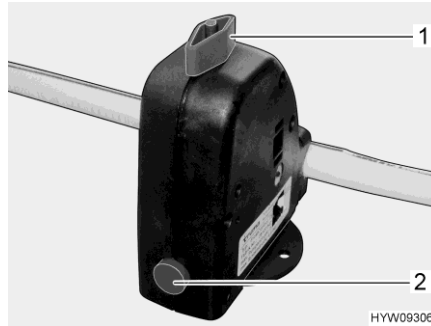

Fig. 171 Safety/drainage valve (boiler)
The boiler is equipped with a safety/drainage valve (Fig. 171). The safety/drainage valve prevents water in the boiler from freezing, when there is frost and the heater is not switched on.
- Close the safety/drainage valve. Turn the knob (Fig. 171,1) perpendicular to the safety/drainage valve and push the push button (Fig. 171,2) in.
- Open the safety/drainage valve. To do this turn the knob (Fig. 171,1) parallel to the safety/drainage valve. The push button (Fig. 171,2) jumps out. The boiler is drained to the outside by the safety/drainage valve.